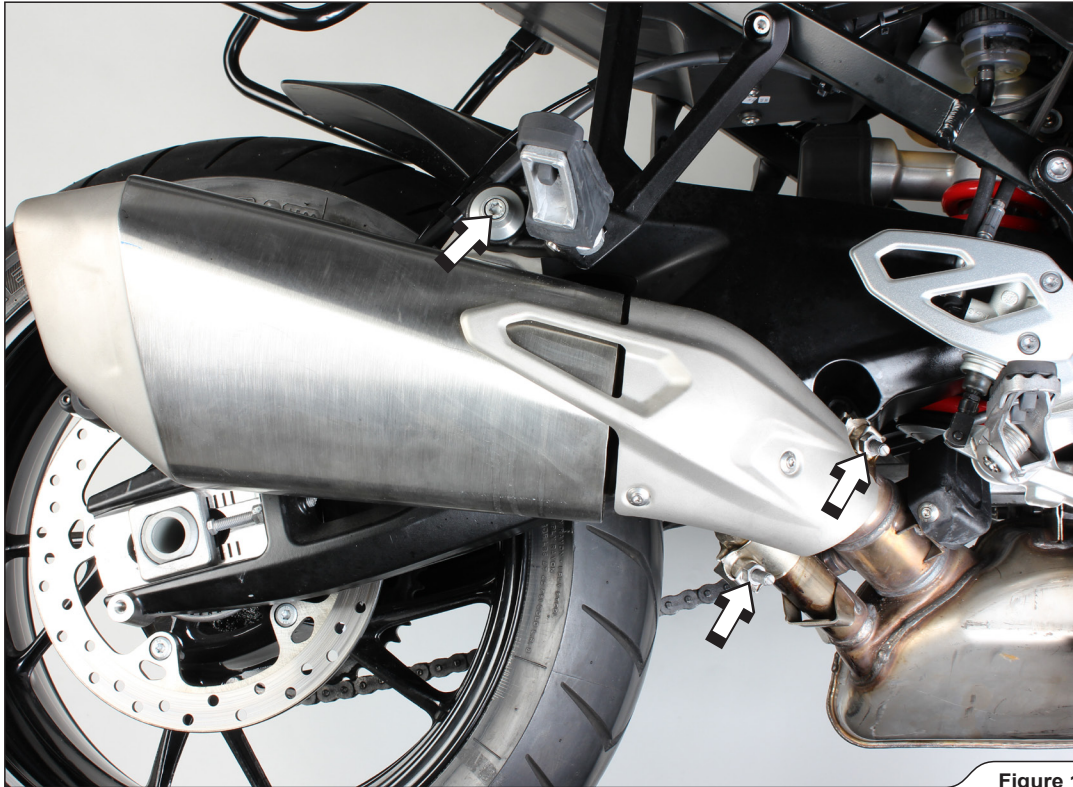

Figure 1
2. Unscrew the muffler hanging bracket bolt and loosen the metal clamps at the muffler-collector connections (**Figure 1**). Remove the muffler off the motorcycle.